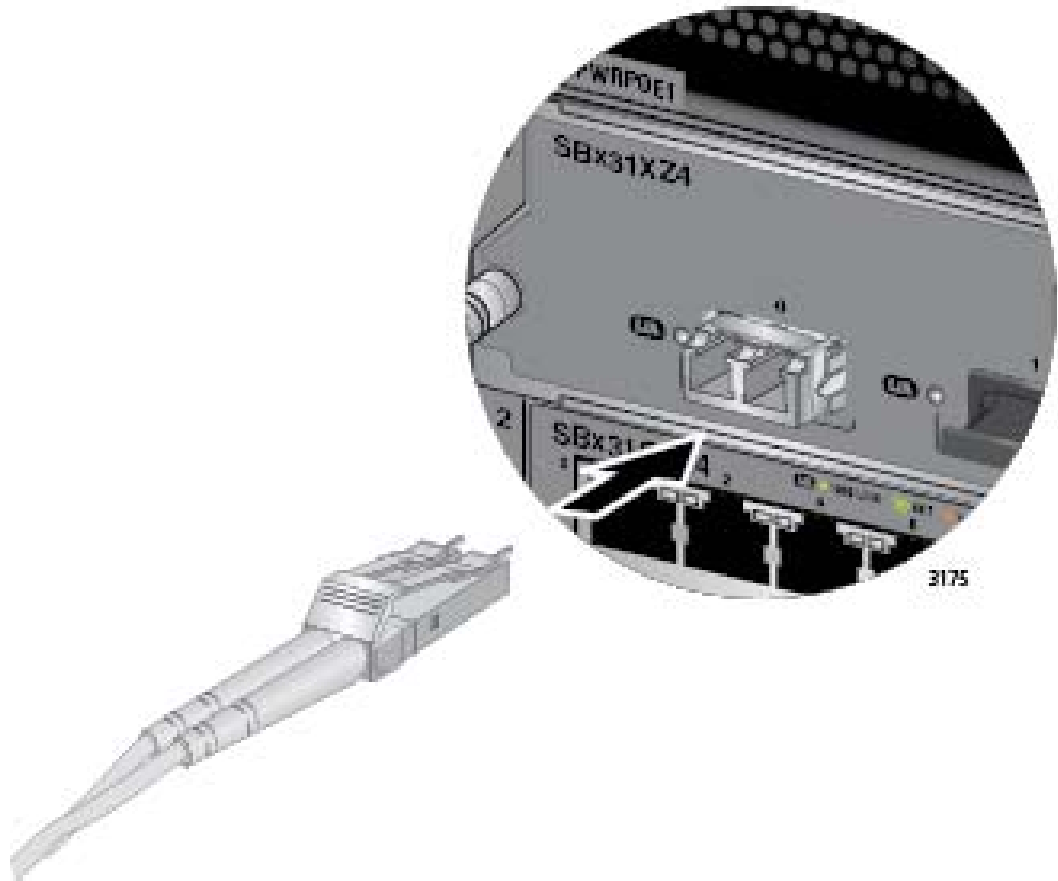

Figure 103. Attaching a Fiber Optic Cable to an XFP Transceiver in the AT-SBx31XZ4 Line Card
6. Connect the fiber optic cable to the port on the transceiver, as shown in Figure 103 on page 165. The connector should snap into the port.